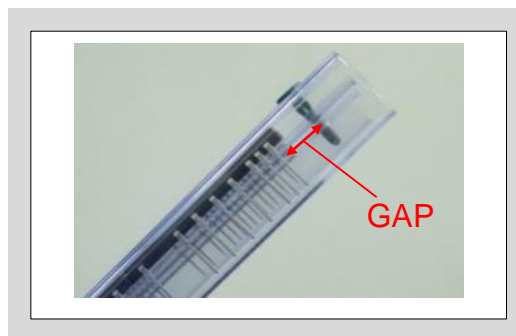

Fig. 2-1 Gap between the pin and the product
1. Make a gap between the pin and the product. (See Fig. 2-1)